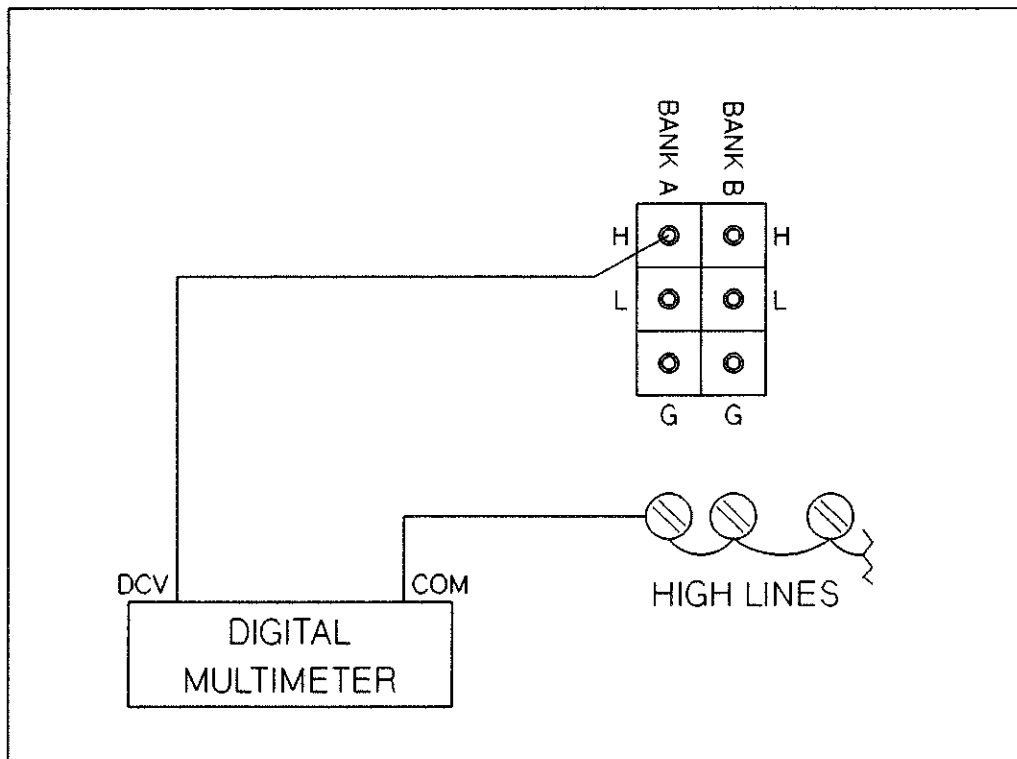

Figure 8-27 HP 44705A/H Bank A HIGH to Common Thermal Offset"
3. Connect the multimeter test leads between the Bank A common HIGH test point and the shorted HIGH connections of the test fixture as shown in Figure 8-27.